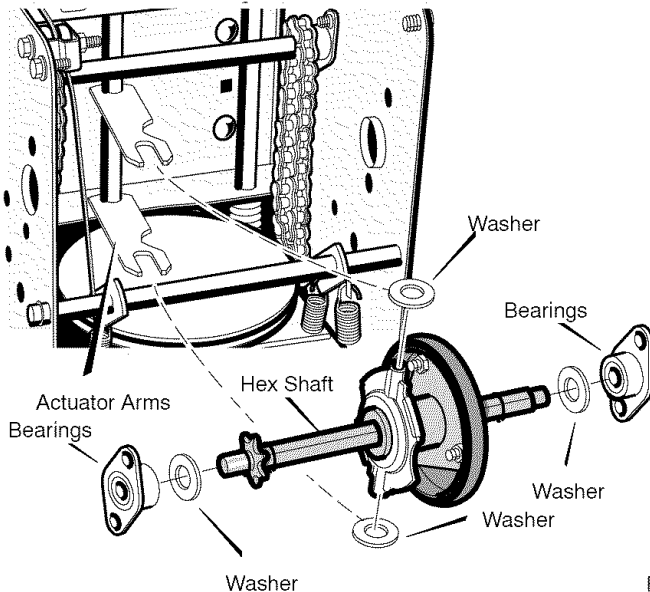

Figure 50
14. Install the **hex shaft** and **bearings** with the four bolts removed earlier (see Figure 50).